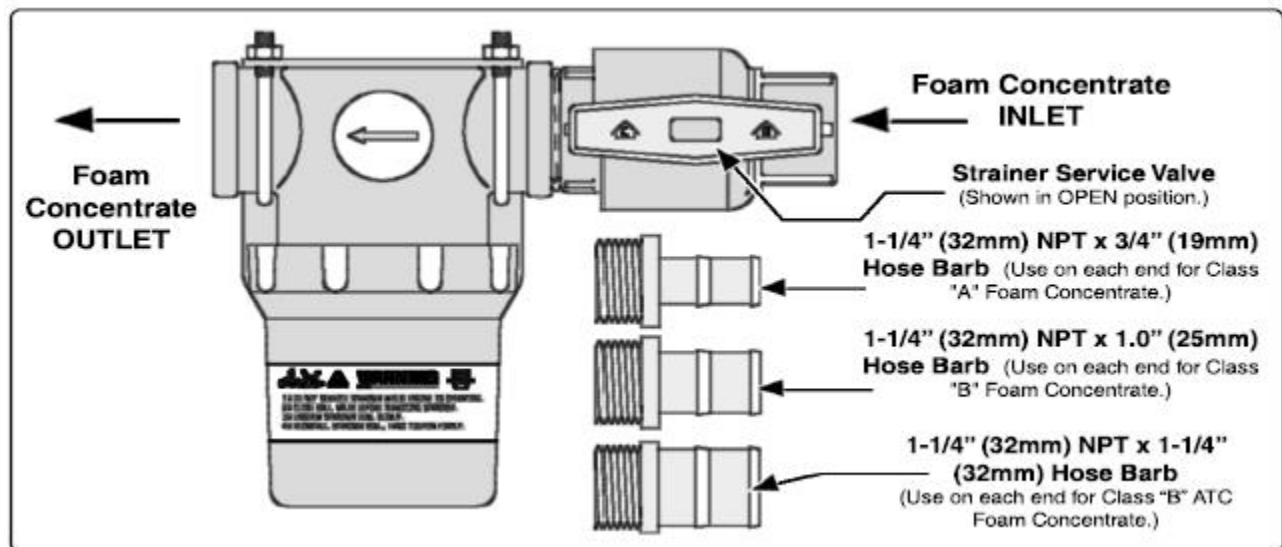

Figure 23: In-Line Strainer/Valve Installation
Use 3/4" (19mm) inside diameter hose for Class "A" foam and a 1.00" (25mm) inside diameter hose for Class "B" foams. For high viscosity Class "B" foam concentrates use 1-1/4" (32mm) or 1-1/2" (38mm) inside diameter hose. (See Figure 23: **In-Line Strainer/Valve Installation**). A bracket is included to permit installation on the apparatus.
4. Select the appropriate fittings from the bag attached to the strainer assembly. Two of each fitting are included with the strainer assembly. For fitting selection vs. type of foam concentrate (see Figure 23: **In-Line Strainer/Valve Installation**).
6. Install the clear plastic hose from the foam tank outlet to the inlet of the strainer/valve assembly. (Figure 23: **In-Line Strainer/Valve Installation**). Wet the ends of the hose and fittings to make the installation easier.